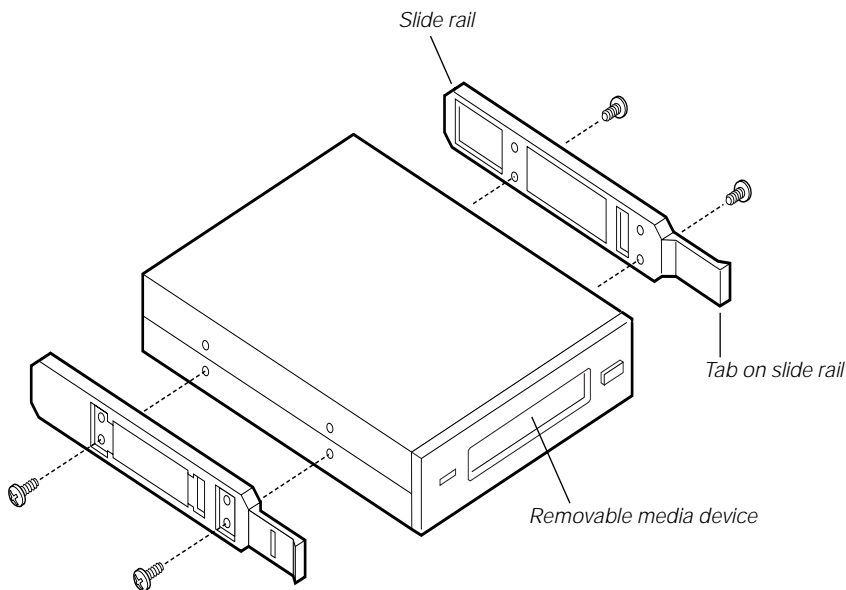

Figure 17: Attaching the Slide Rails
8. Using two screws of the appropriate size and length (not supplied), attach each plastic slide rail (see Figure 17) with its metal grounding plate to the drive.